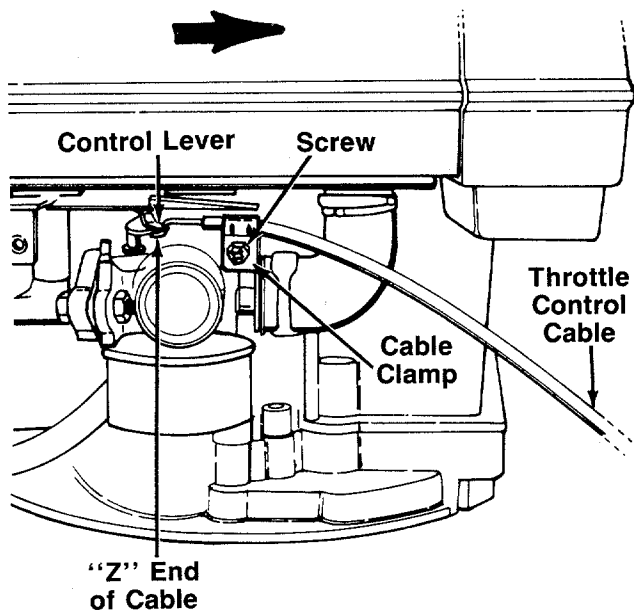

FIGURE 6C.—Model 508R
2. The throttle control cable is attached to the upper handle. Route the throttle control cable under the lower handle and inside the handle mounting bracket. Hook the "Z" end of the throttle control cable into the control lever on the engine as shown in figure 6C.
3. Loosen (do not remove) the screw on the cable clamp shown in figure 6C. Slip the control casing under the clamp (cable must move freely beneath the clamp).